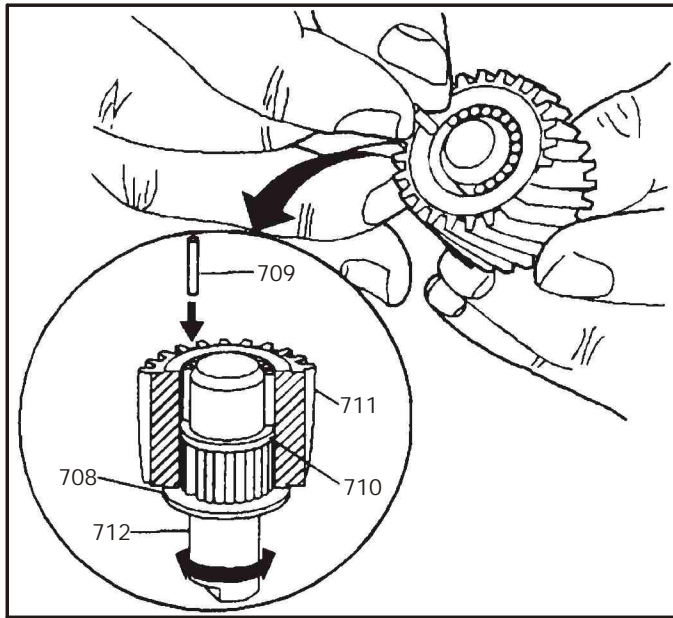

Figure 86
7. Install the needle bearing rollers (709) one at a time into the pinion gear (711), as shown in Figure 86.
9. Use a washer (708) on the bottom of the pinion gear (711), and plenty of "Trans-Jel" in order to help hold the needle rollers (709) in place. Refer to Figure 86.
10. Occasionally twist the pinion gear pin (712) in order to help align the rollers (See Figure 86).